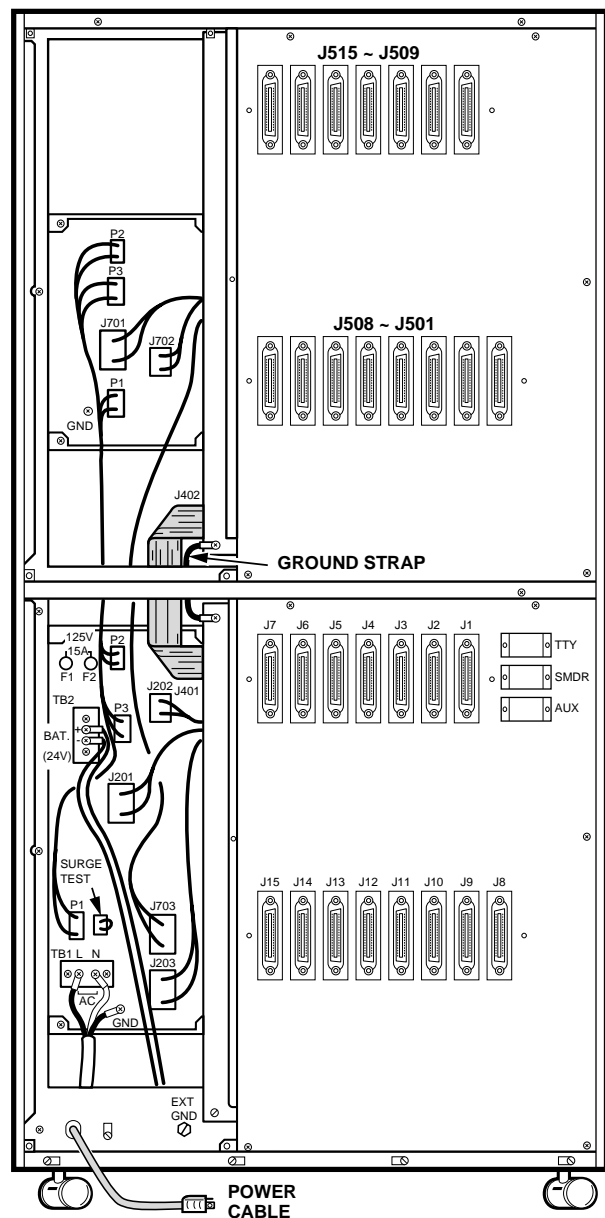

FIGURE 4-2—PERCEPTIONe
- 8) Connect the white and black leads to the **AC** terminal (black to **L** and white to **N**) and the green lead (ground) to the **GND** screw on the main power supply (Figure 4-2). Replace the plastic cover and secure with two screws.
- 14) Turn the power supply **OFF** and then connect **J201**, **J202** and **J203**, respectively, as shown in Figure 4-2.
- 17) Connect the peak load battery cables to TB2 on the rear of the basic power supply (see Figure 4-2). Ensure that the correct polarity is observed as follows:
- 8) Connect the intercabinet ground wire in accordance with Figure 4-2.